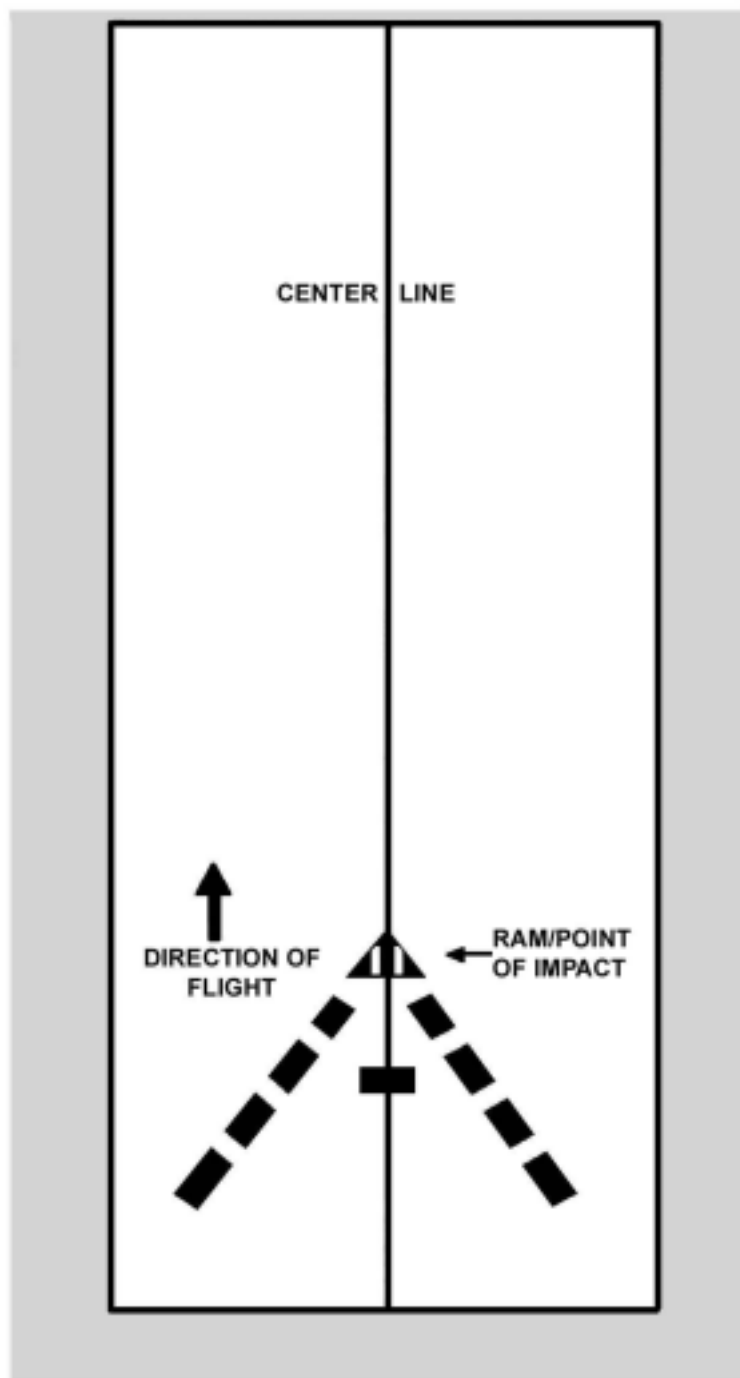
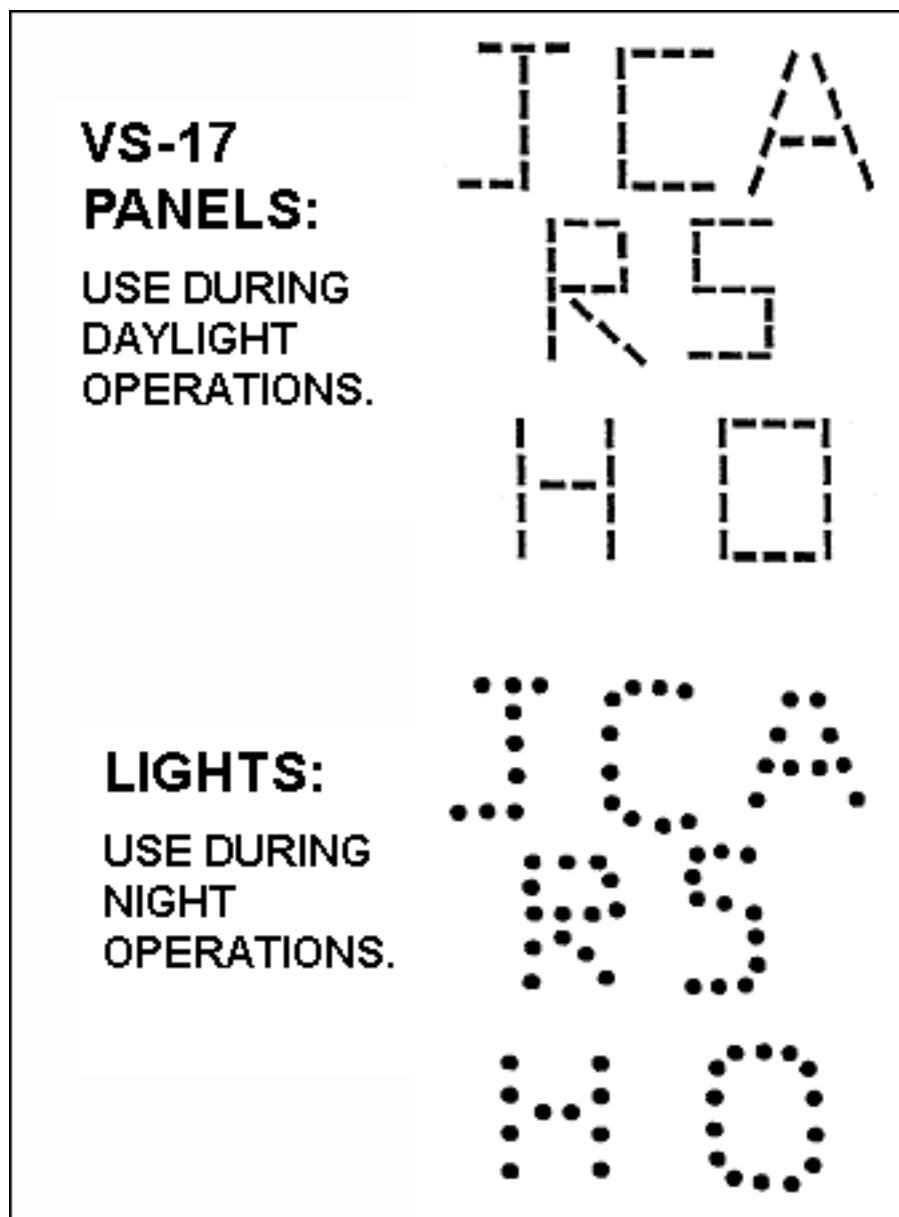

Figure 6-14. Drop zone placement (day).
Figure 6-15. Code letters.
- (1) **Day Operations.** For day operations (Figure 6-14), pathfinders mark the point of impact with a RAM (raised-angle marker, Figure 6-5) and an Air Force code letter, which could be a "J," "C," "A," "R," or "S" (Figure 6-15). This applies to rectangular drop zones. They use "H" or "O" for circular drop zones. Each letter must measure at least 35-feet square, and requires at least nine panels flat on the ground.